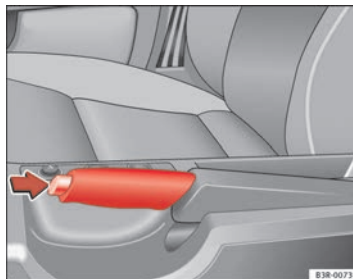

Fig. 149 Detailed view of the centre console: Handbrake on
- Pull the lever up slightly and *at the same time* press in the release button ⇒ **fig. 149 -arrow-**.